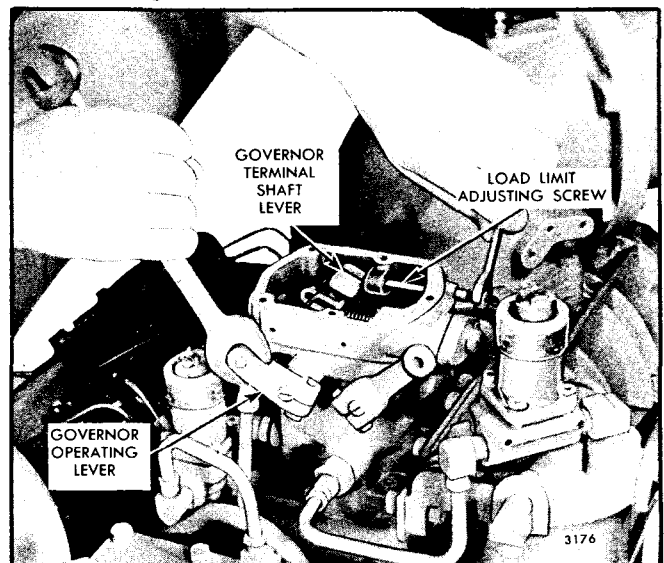

Fig. 8 - Adjusting Load Limit Screw
1. With the governor cover off and the load limit screw lock nut loosened, place and retain the governor operating lever in the full-fuel position as shown in Fig. 8.